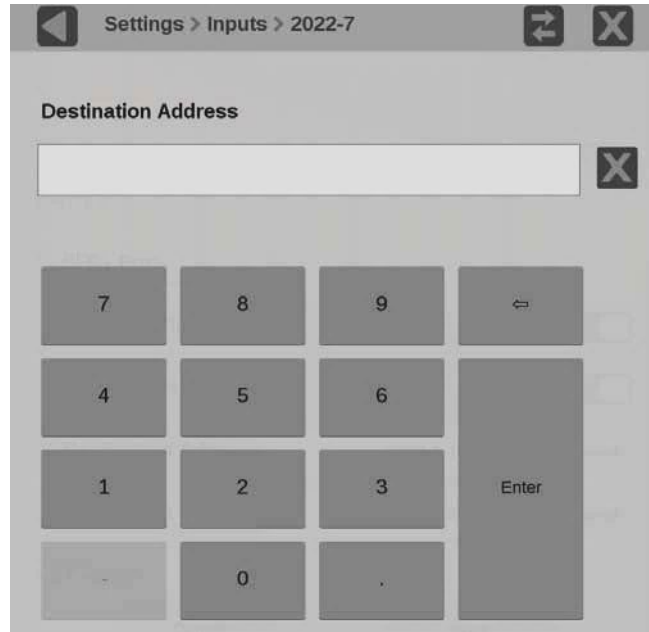

Figure 37: Editing parameter fields
5. To edit one of the parameter values, select inside the parameter box to open the editing display, as shown in Figure 37.